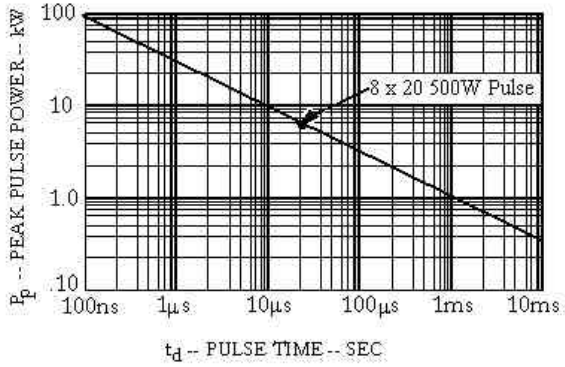

FIGURE 1
- SM03 thru SM36 have a Peak Pulse Power: 500 Watts (8/20 usec, Figure 1)